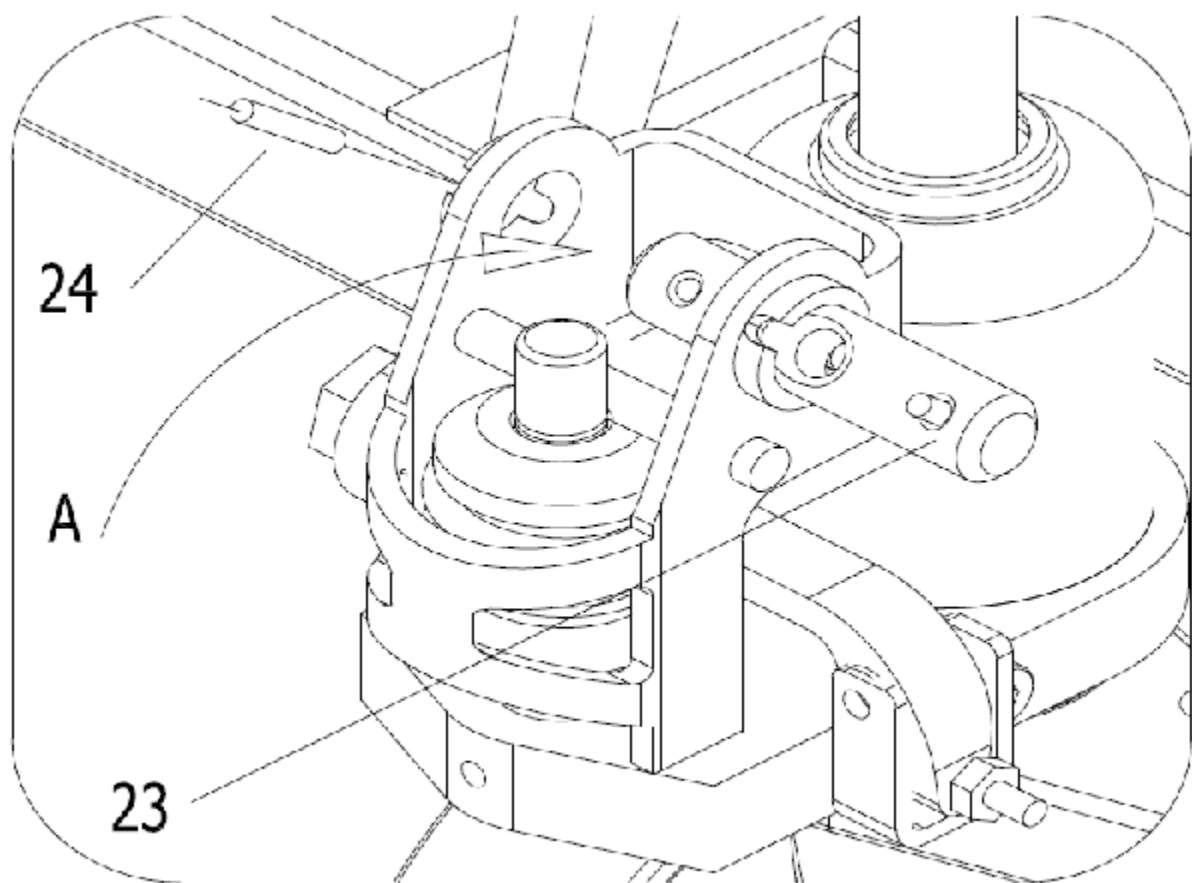
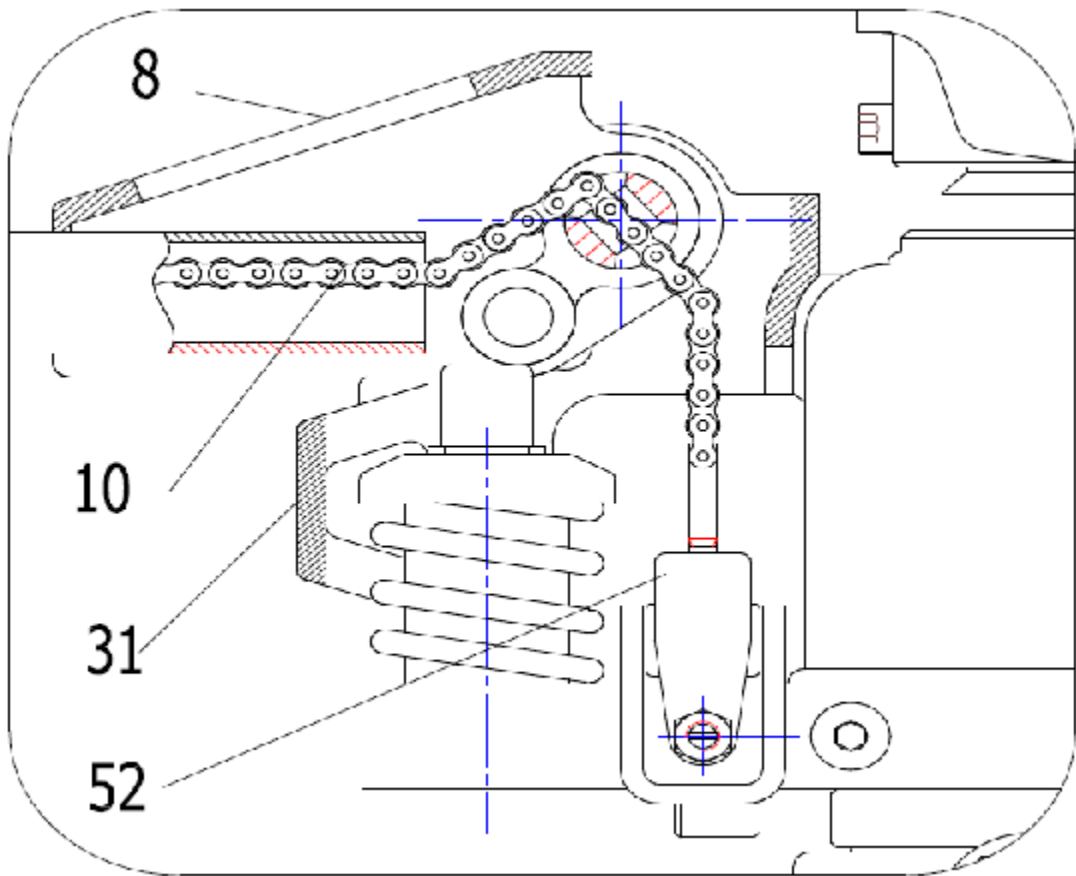

Figure 1
Figure 2
1. Pull the roll pin out(23). *See figure 1*
2. Insert the handle(8) into part (A). Connect the handle(8) and pump body(31) with the roll pin(23).
3. Insert the spring pin(24) to secure the roll pin(23).
4. Connect the handle chain to the central hole of the roll pin(23). *See figure 2*
5. Attach the nut, at the end of the chain(10), to the lever plate(52). *See figure 2 and 4*